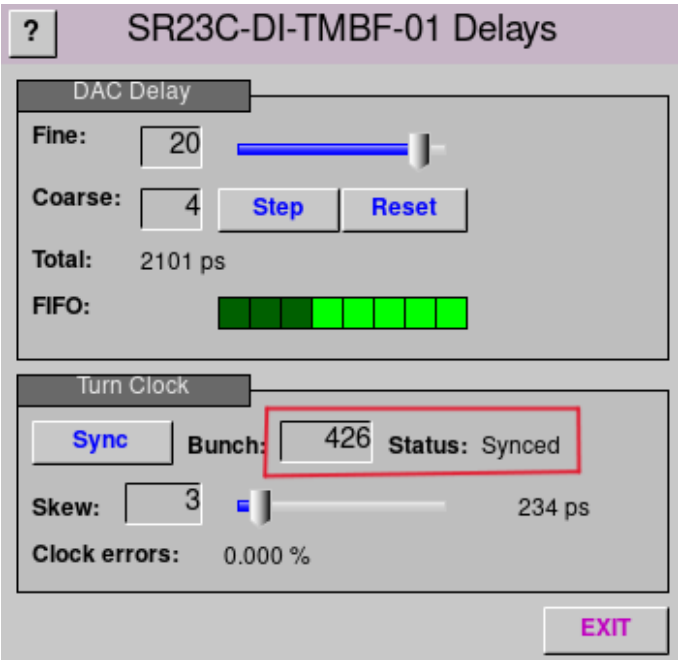

Figure 2.7: MBF delay screen
- if no sync press sync button as shown on figure 2.7
- adjust MBF bunch value as shown on figure 2.7